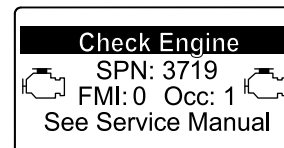

Figure 47
- If a recovery regeneration is needed, the InfoCenter displays engine warning SPN 3719, FMI 16 (Figure 47) and the engine computer derates engine power to 85%.